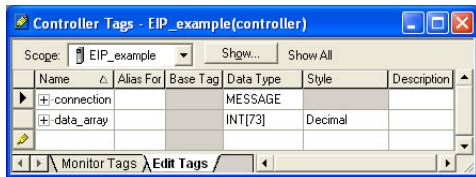

Figure 95: Create New Tags
- b) The “Controller Tags” window appears. Refer to Figure 95.